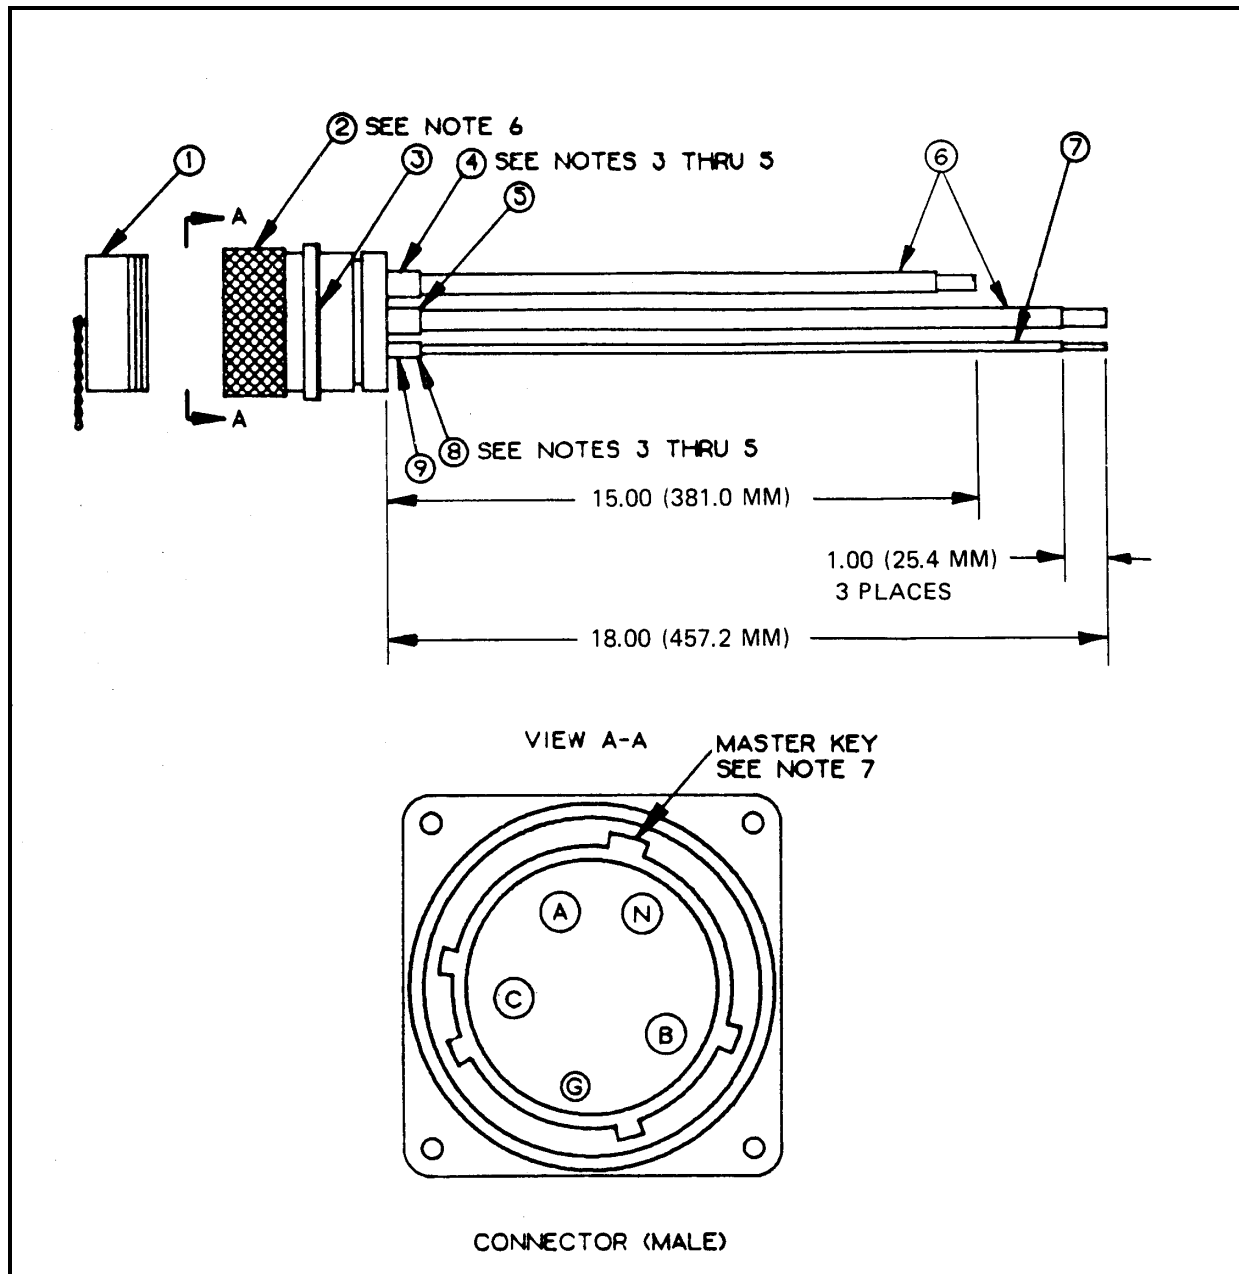

Figure F-29. M40 A/P (PDISE), 40-Amp, Input Connector Assembly, (J1)
F-29 M40 A/P (PDISE), 40-Amp, Input Connector Assembly, (J1)**Component Legend for Figure F-29**
- c. Electrical connector (Figure F-29, Item 2) is furnished with the following: